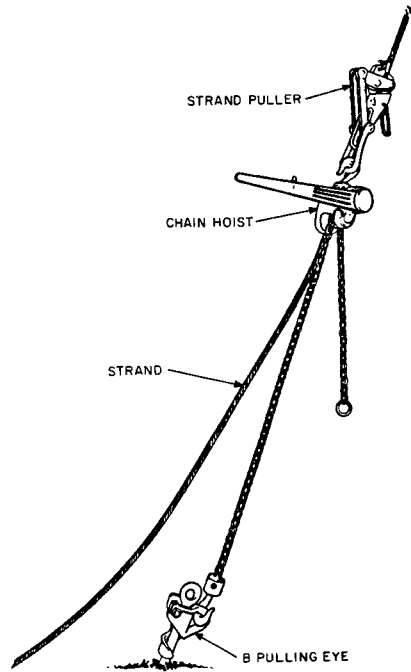

Fig. 19—Tensioning Guy
- (a) Apply a strand puller to the guy strand a short distance above the point where the strand grip will terminate. Fasten a B pulling eye on the guy rod and apply tension to the guy with a chain hoist. (See Fig. 19.) Overtension the guy (two or three clicks of the chain hoist will usually be sufficient) to compensate for the slight slack produced in attaching the strand grip.